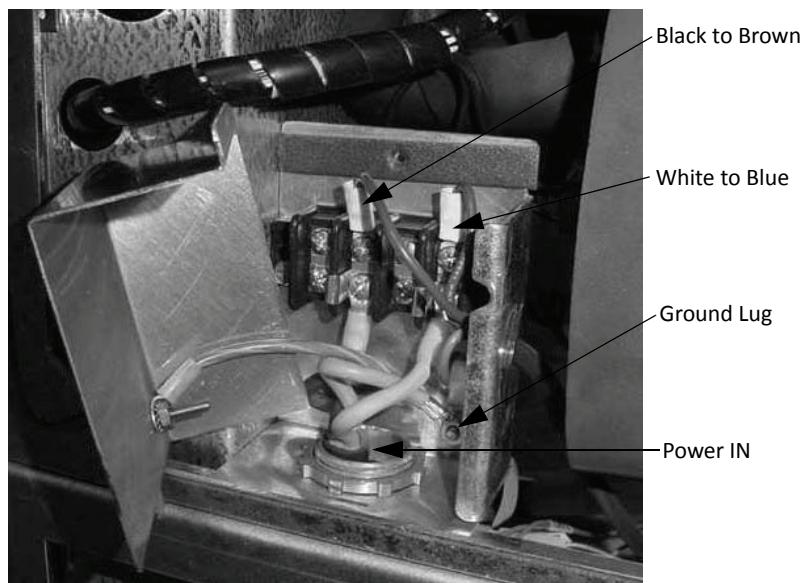

Figure 3.
4. Connect the power cord to the terminal block (Figure 3.)
5. Connect the ground wire to the ground lug (Figure 3.)